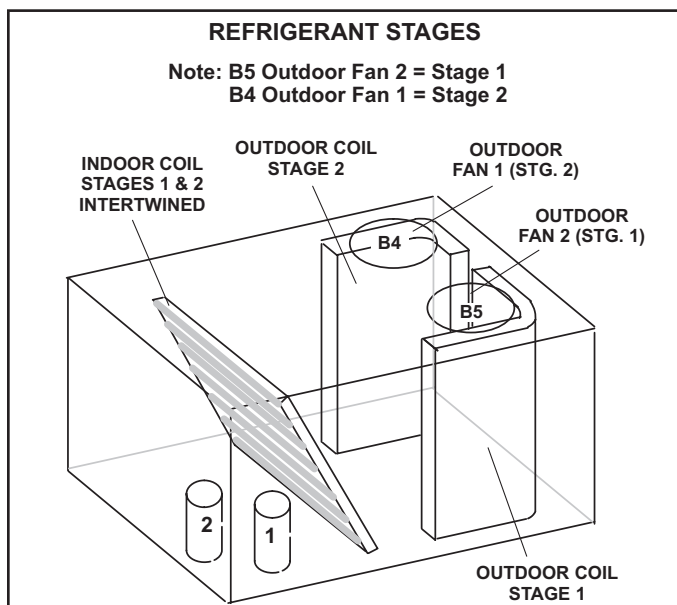

FIGURE 14
- 4 - Units contain two refrigerant circuits or systems. See FIGURE 14.
The defrost control will not energize a defrost cycle unless the unit has been operating in heating mode for an accumulated 60 minutes (default) on 100269-02 boards; 90 minutes (default) on 100269-07 boards. The run time interval can be changed by moving the jumper on the CMC board timing pins. See FIGURE 14.